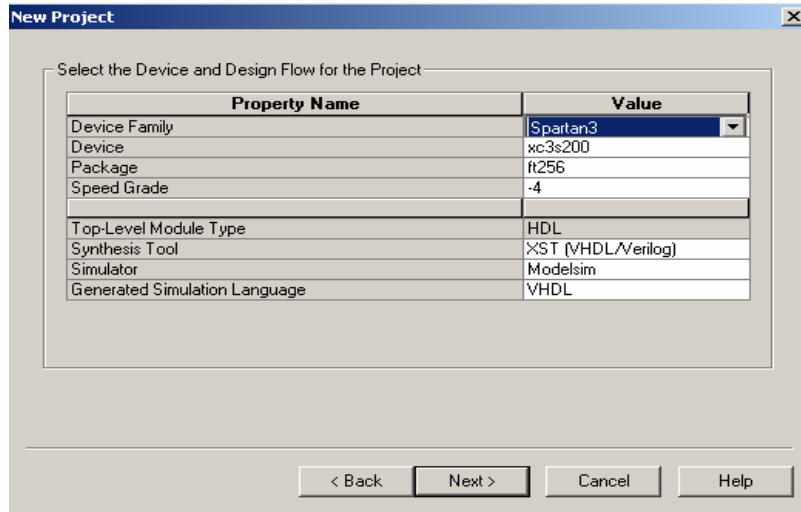

Figure 4; Creation of a project. The format for **Project Location** must be **“C:\ece238\Fall2005\student_name\lab7”**
2. Create counter project; In the Project Navigator, select **File** → **New Project** and setup options as in figure 4. Click **OK**.